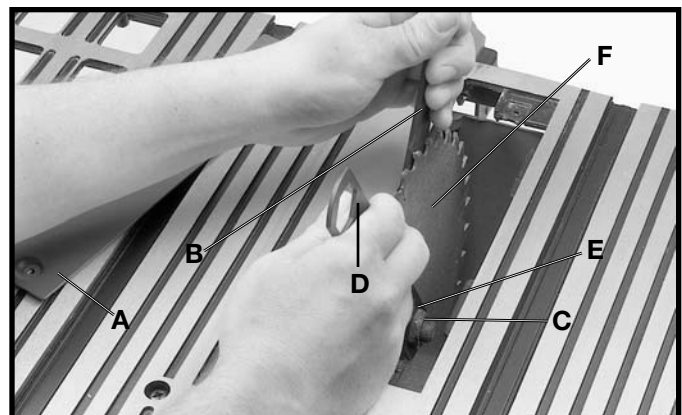

Fig. 35
2. Raise the saw blade to its maximum height and remove the table insert (A) Fig. 35.
3. Using the open end wrench (B) Fig. 35, place open end of wrench on flats on inside blade flange to keep the saw arbor from rotating and remove arbor nut (C) with wrench (D). Turn nut (C) counterclockwise to remove. Remove outside blade flange (E) and saw blade (F).
4. Assemble new blade, making certain teeth of blade are pointing down at the front of the saw table and assemble the outside blade flange (E) Fig. 35, and arbor nut (C). Tighten nut (C) with wrench (D) by turning nut clockwise while holding arbor steady with other wrench (B).